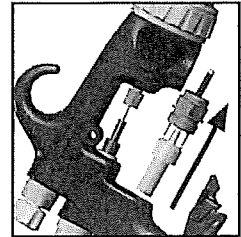

Fig. 28
3. Remove air valve by gripping the stem. (See fig 28)